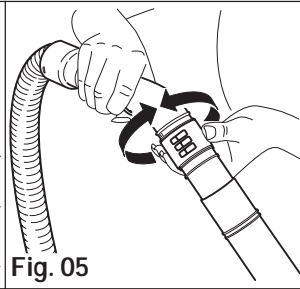

Fig. 05
**HANDGRIP** (fig. 05) - With simplicity it is possible to manually adjust the air flow that emits from the ring nut.